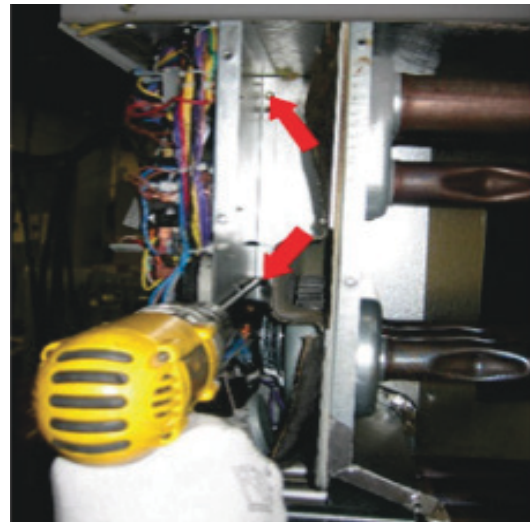
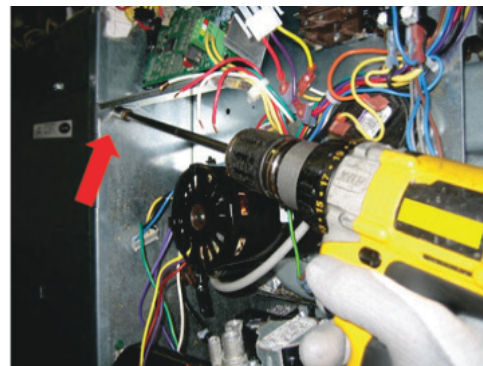

Fig. 10 – Removing Screws Behind Heat Shield ^{A210077}
Fig. 11 – Removing Screw Under Control Board Panel ^{A210078}
13. Remove 2 screws from behind Heat Shield and 1 screw under control board panel (Fig. 10 and Fig. 11).